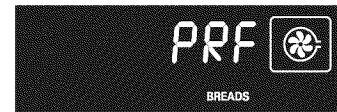

Fig. 1
2. Press the **Bread Proof** keypad. The convection fan will turn and the oven temperature will reach 100°F. (See Fig. 1).